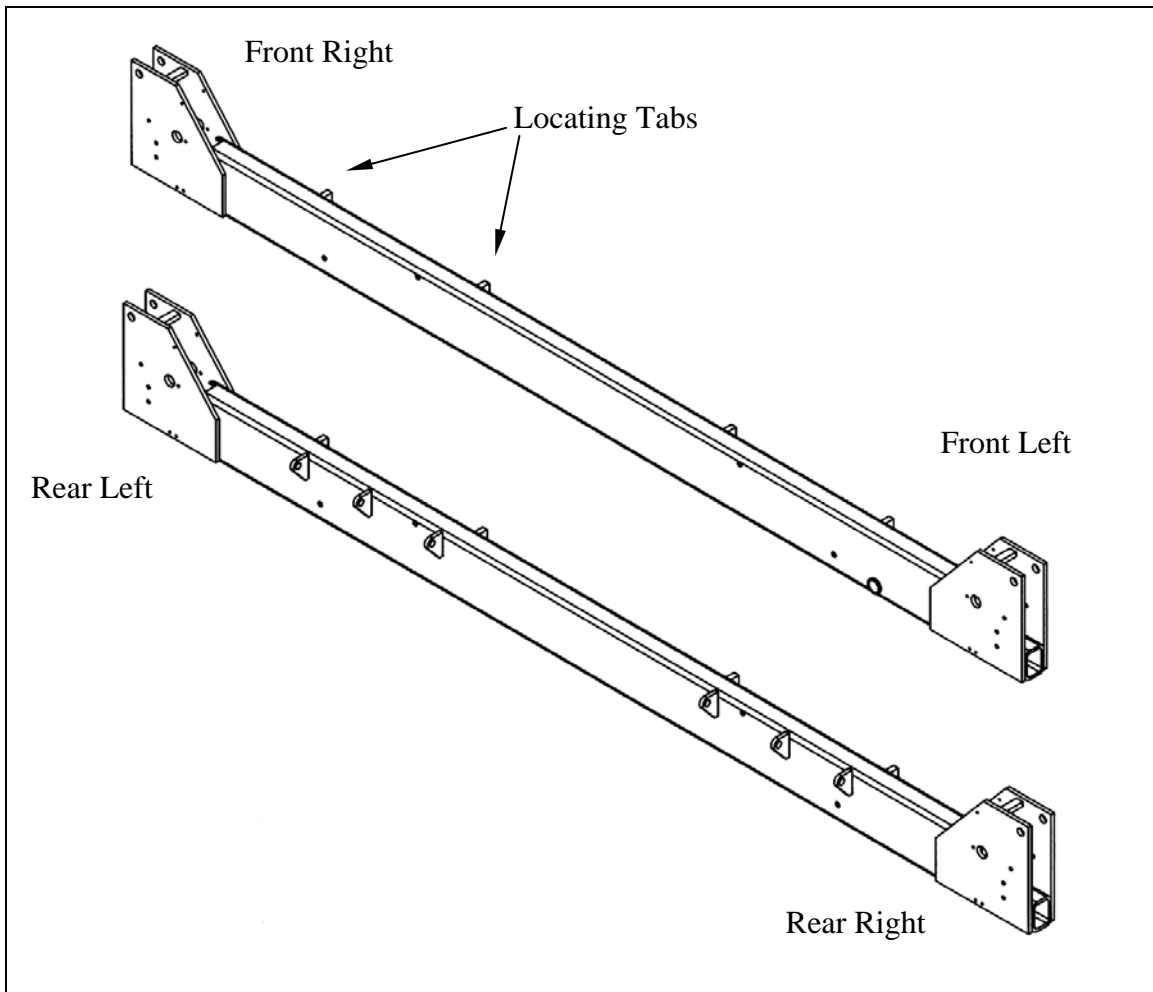

Figure 2. Front and rear crossmembers
- The rear crossmember has three ears for attaching the approach ramps. There are 2 locating tabs on each side of the crossmembers for positioning the decks between the crossmembers (see Figure 2).
- Using a floor jack or engine hoist, move the front crossmember into position in front of the lift and the rear crossmember into position at the rear of the lift. Refer to Figure 2 to identify the front and rear crossmembers.